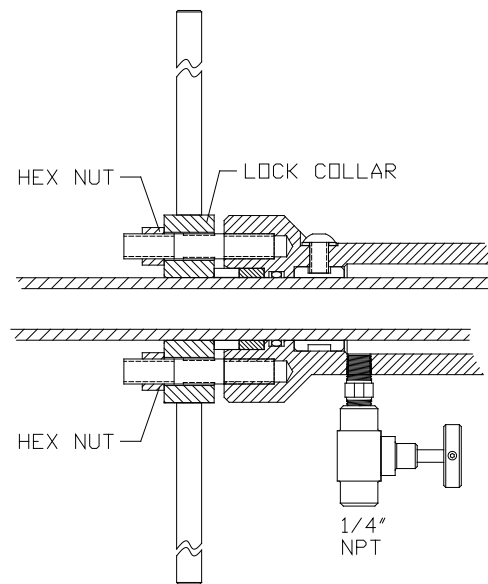

FIGURE 3
- 2.1.13 During operation, some product may leak just below the lock collar. Simply tighten the nuts that are located on the lock down studs (see Figure 3).